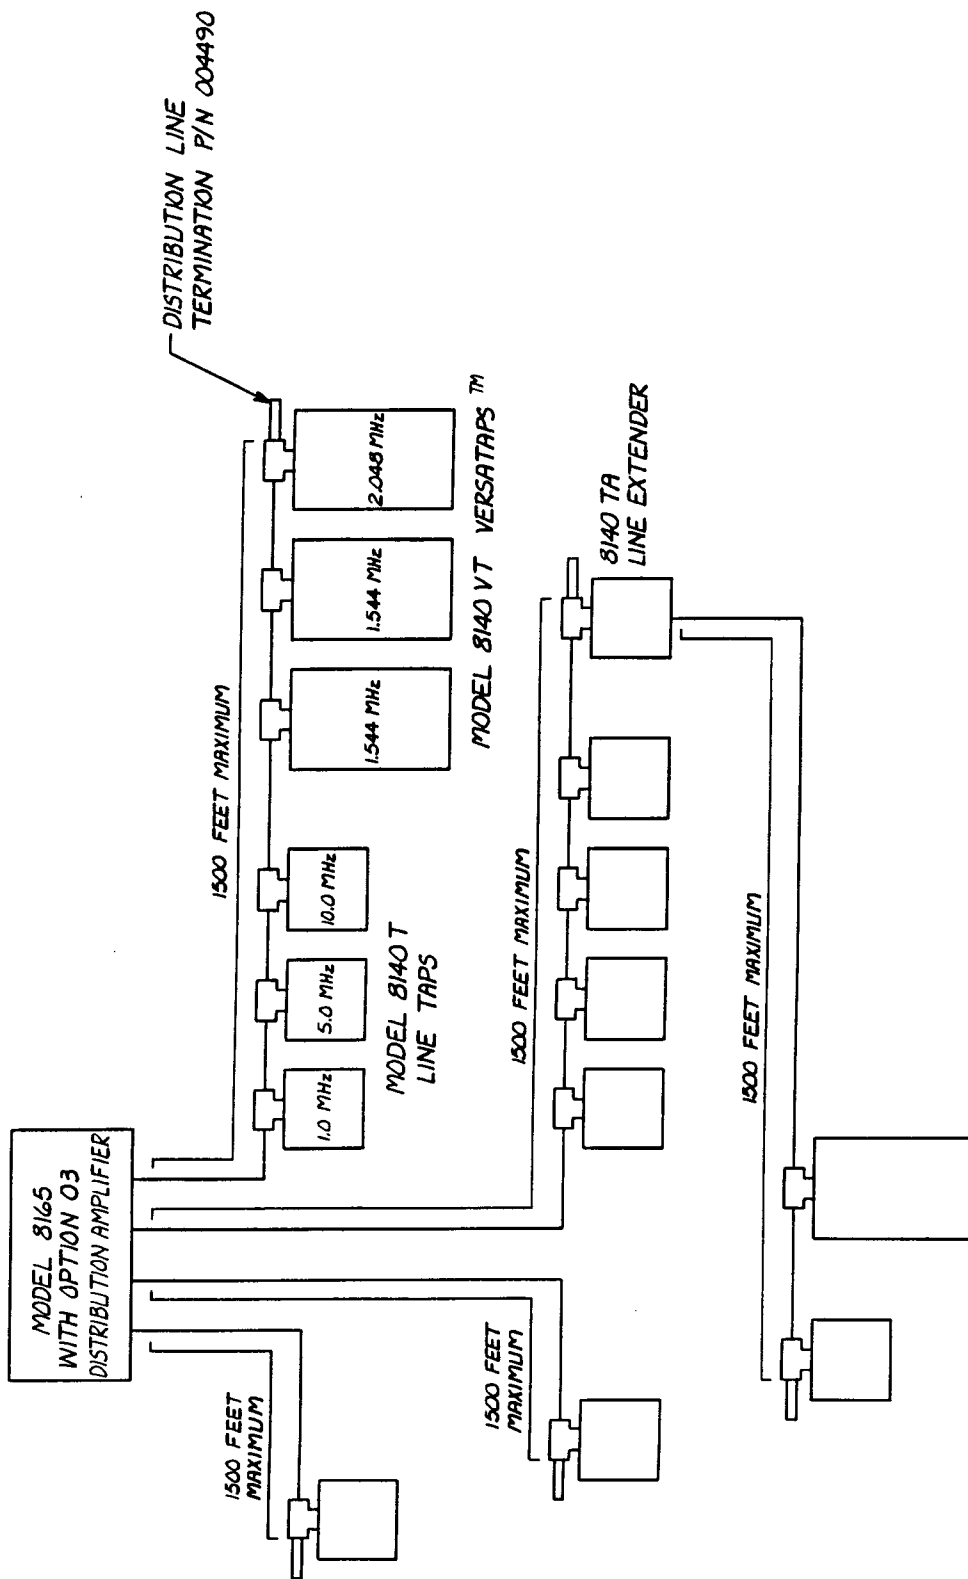

FIGURE 5-2 TYPICAL INTERCONNECTION DIAGRAM
B. Use a Model 8140TA Line Extender Amplifier at 1500 feet, allowing a further 1500-foot (457 m) extension of the distribution line. The Model 8140TA counts as one line tap towards the total number allowed. Use a Distribution Line Termination, Part Number 004490, at the input tee connector and at the end of the extended line section as shown in the "Typical Interconnection Diagram", Figure 5-2.
3. Each distribution line must be continuous from the base station to the DC isolated 50 ohm load that must be used at the far end. Line taps are inserted along the distribution line by using the supplied input tee connector. No branching or "Y" configurations may be used as this causes impedance mismatch on the line. Anything other than a 50 ohm line impedance may cause reflections which can cancel the output waveform at the receiver triggering the output fault lamp. Refer to the Typical Interconnection Diagram, Figure 5-2 for an approved method of interconnection.